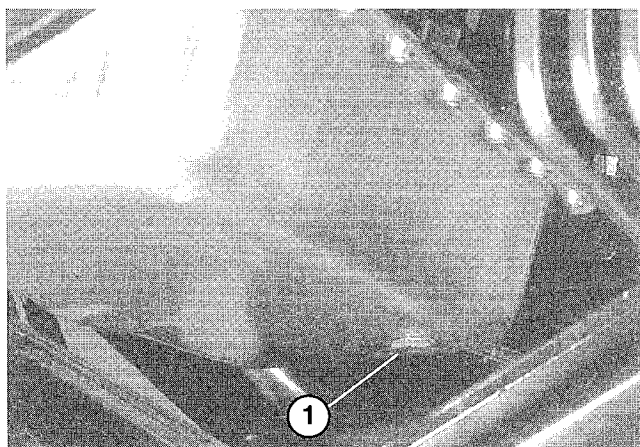

Figure 44
ENGINE OIL AND FILTER (Fig. 44–45)
1. Remove drain plug (Fig. 44) and let oil flow into drain pan. When oil stops, install drain plug and new plug seal, Part No. 74–7850.